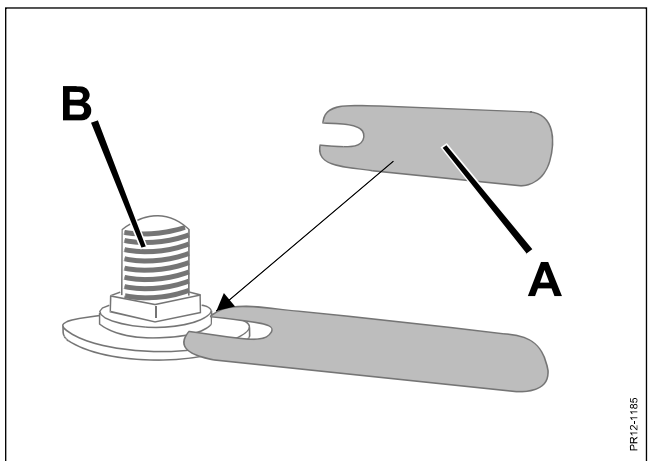

Fig. 5-8
- the diameter is less than 15 mm (see also below at fig. 5-8).
- Fig. 5-8 In connection with replacement of blades check all blade bolts **B** on the discs regularly with the gauge **A** (in the spare parts package).